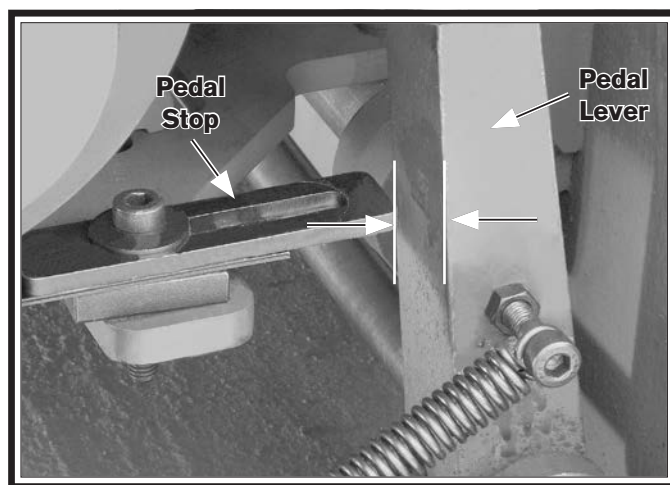

Figure 128. Brake pedal travel adjustment.
8. Tap the pedal stop into position so there is approximately a 25mm gap between the pedal lever and the stop (see **Figure 128**), then firmly tighten the pedal stop cap screw.